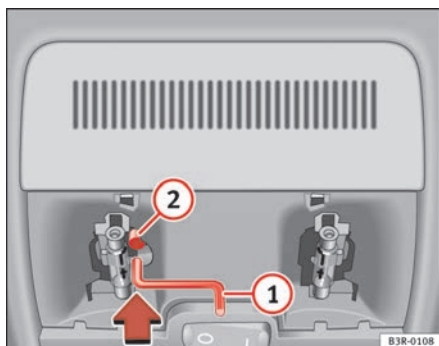

Fig. 82 Details of headliner: Crank handle for manual operations
- Insert the crank handle ① all the way into the hexagonal socket ② ⇒ fig. 82.